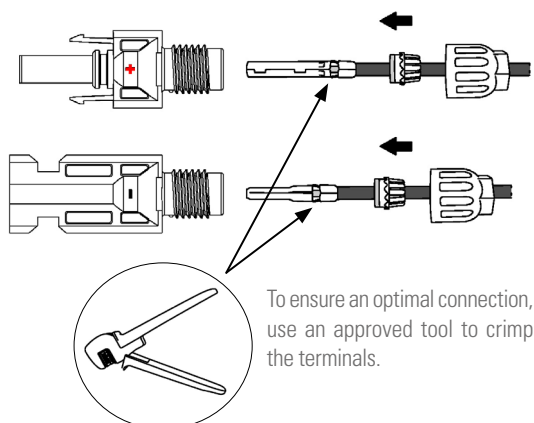

Fig. 18. Crimping the cable.
- d. Insert the DC cable through the DC connector nut on the metal terminal and press the terminal with professional crimping pliers (pull the cable to check if the terminal is well connected to the cable), as shown in Fig. 18: